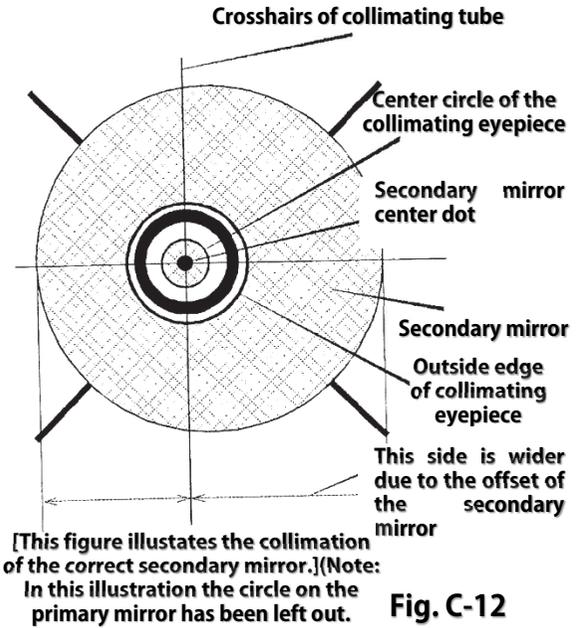
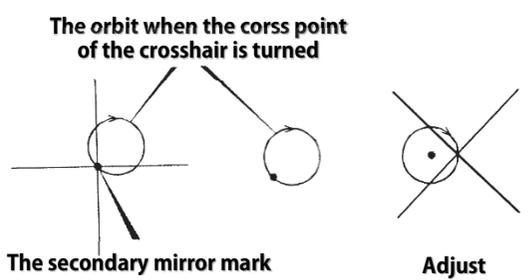

**Fig. C-10**
**Fig. C-11**
⑥ In this process the center of the reflection of the collimating eyepiece has been shifted off center as seen on the Fig. C-10. Then it becomes necessary to rotate and tilt the secondary mirror so that the center of the reflection of the collimating eyepiece is centered on the crosshairs. In the Fig. C-10 the secondary mirror is rotated so that the reflection on cross hair and in the Fig. C-11 the secondary mirror is tilted so that the center reflection of the collimating eyepiece is centered on the crosshairs by tightening push screw A. Now the center reflection of the collimating eyepiece is centered over the crosshairs as well as the center dot on the secondary mirror.